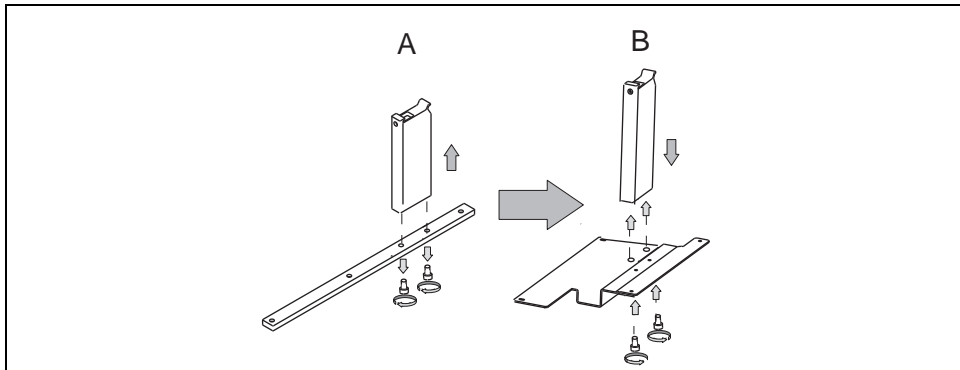

Figure 3-13. Sampler Support Disassembling and Spacer Plate Assembling
3. Disassemble one sampler support removing the support leg from the support bar unscrewing the two fixing screws. See **A** of Figure 3-13.
4. Mount the support leg on the spacer plate provided and fix them by using the same fixing screws previously removed. See **B** of Figure 3-13.